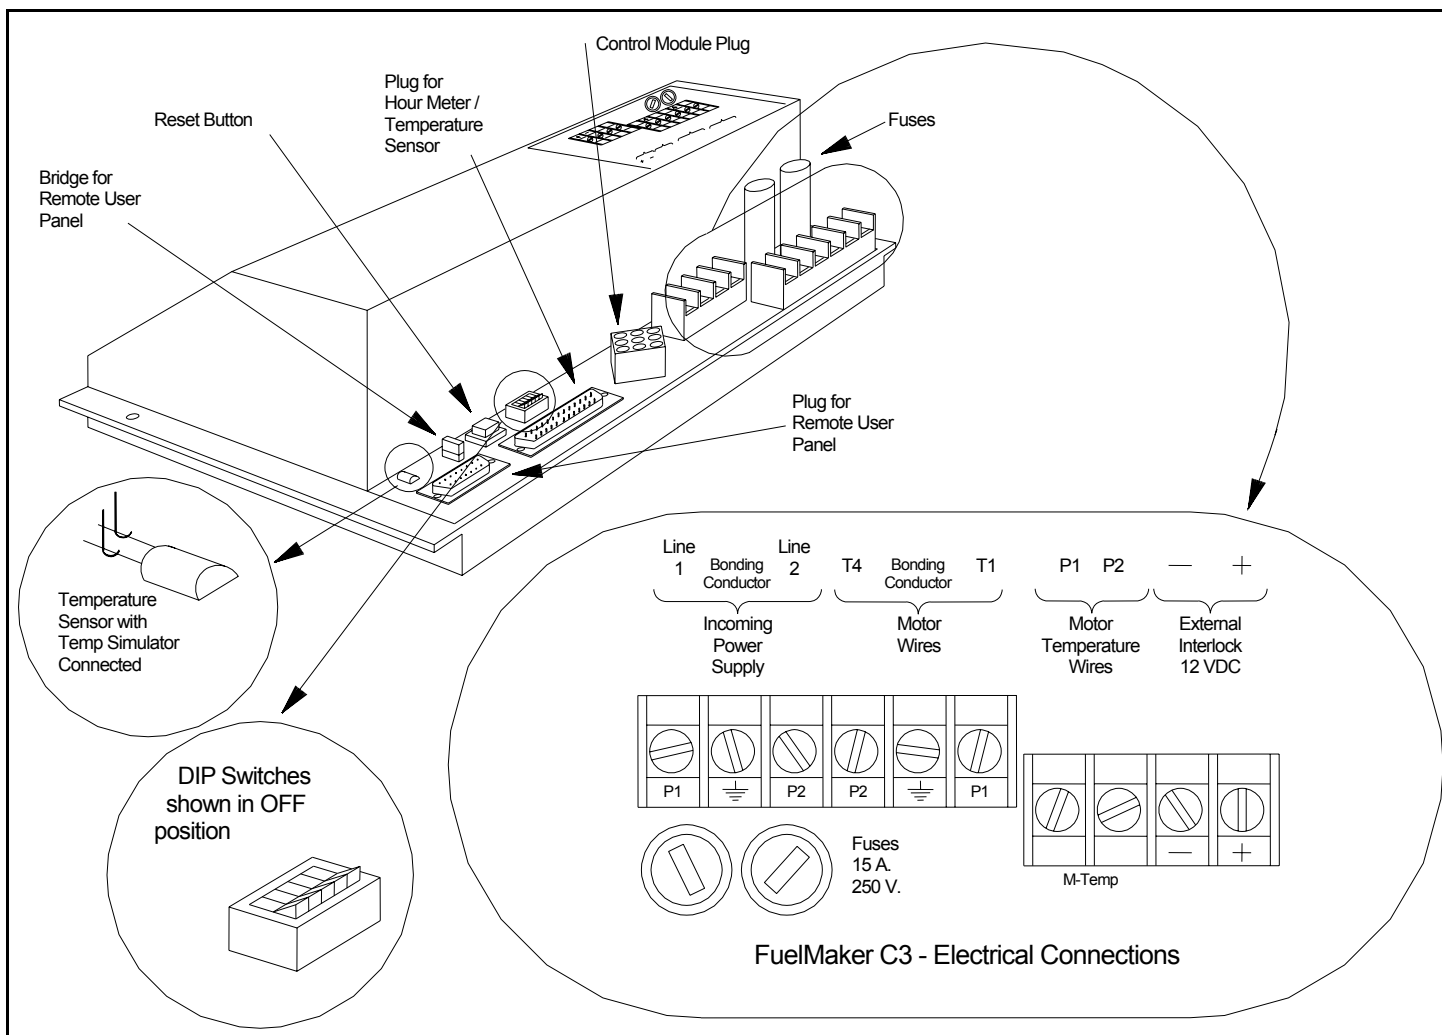

Figure 6 - Connections to Electronic Module
- disconnect the motor wires (see Figure 6), electrical supply, external interlocks (if connected), Control Module plug, and the hour meter/temperature sensor.
The Electronic Module is illustrated in Figure 6. **Ensure that the power is turned off.** Easy access to the terminals, reset button, and connectors is gained by depressing the release tabs on the Electronic Module mounting bracket and tilting the module forward.
The reset button is also shown in Figure 6 - following correction of any of the "CALL FOR SERVICE" faults it should be pressed to clear the fault. Two power fuses (15 A. 230 Volt) are also located near the terminal strips on the back of the Electronic Module.